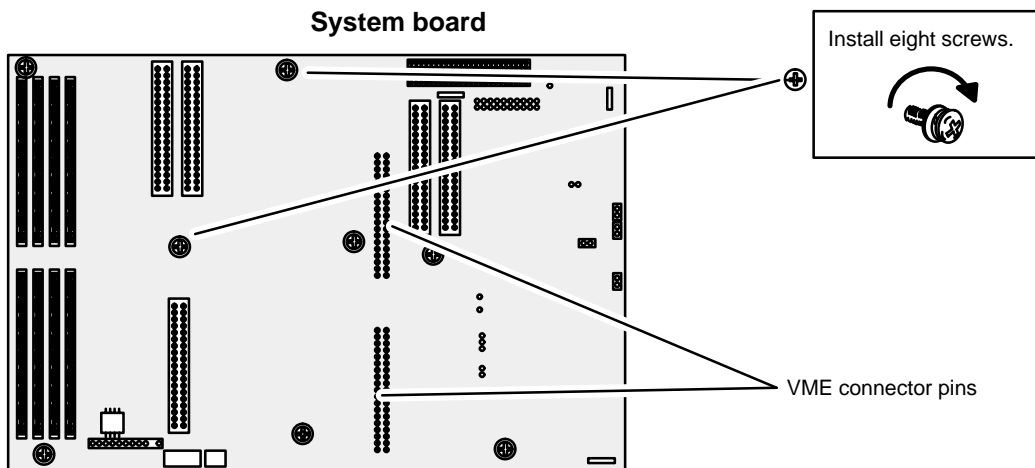

Figure 10-13 Securing the System Board to the Computer Unit
7. Press the system board firmly on each side of the VME connector pins shown in Figure 10-13. Press on one side of the top pins and then on the other side of the top pins, and continue to work your way down the connectors pressing on one side of the pins and then the other. Since the pins are surrounded by components, you will have to press on the components.
8. Using the medium Phillips screwdriver, secure the system board to the computer unit with the eight screws and washers shown in Figure 10-13.